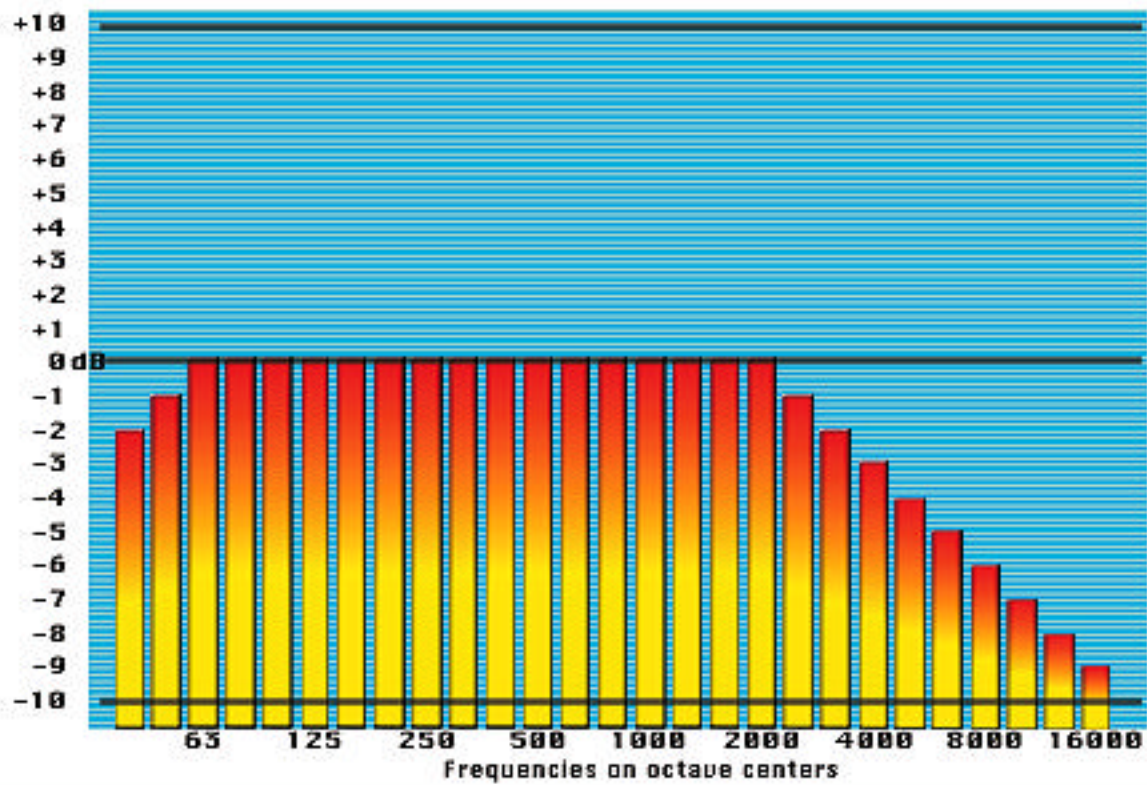
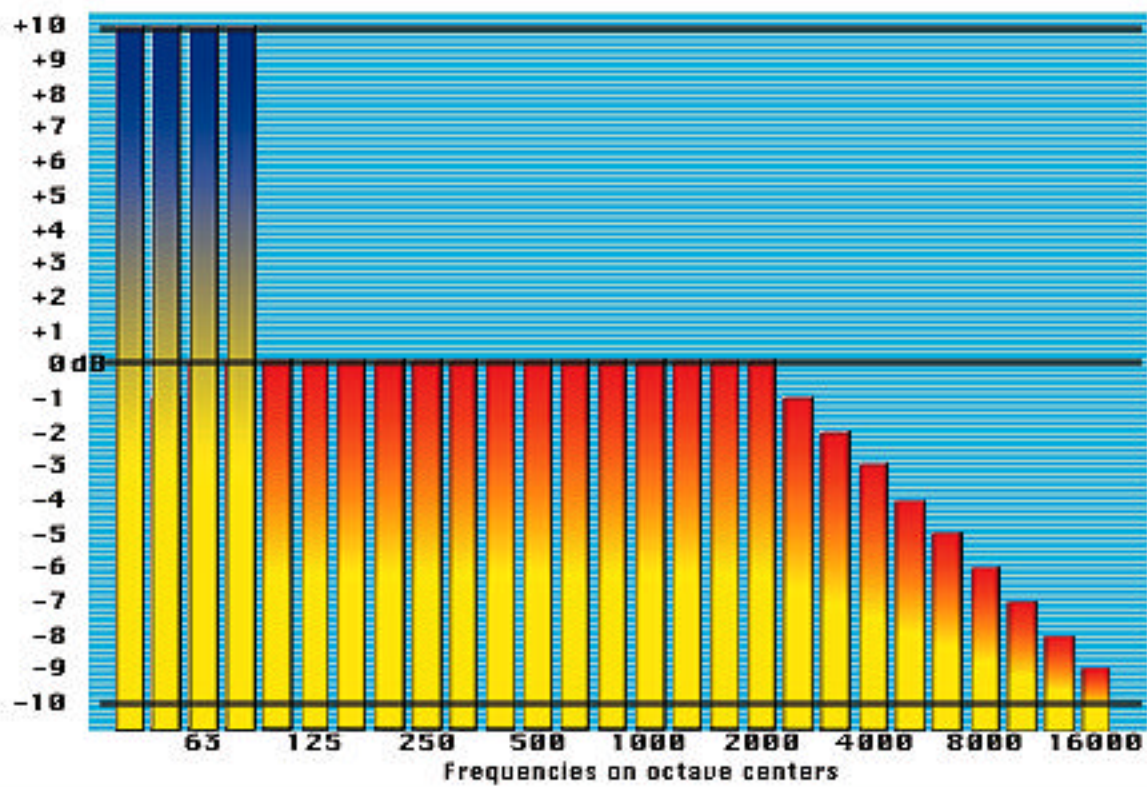

Figure 1
Figure 2
Dolby's answer was to use a Real-Time-Analyzer (RTA) rather than a sound pressure level meter to measure the subwoofer level. The idea was that the subwoofer frequencies should be set to appear 10 dB above those of the center channel, as seen on the analyzer. See Figure 2. Personally, I was skeptical about this approach. However, while I was unsure of this method, I did begin an extensive study to see if indeed the subwoofer's frequencies measured 10 dB above those of the center channel, when the subwoofer levels were correct and sounded the same in different theatres. Sure enough, they did. Yet the pink noise based subwoofer readings in these different theatres varied from 85 to 92 dB when measured with an SPL meter.
1. After the screen channels are equalized and levels are set, play pink noise through the center channel. Observe the RTA display and note the level of the frequencies between 100 and 2000 Hertz. See Figure 1. This level becomes an imaginary reference line for setting both the optical and digital subwoofer levels. Turn off the center channel pink noise.
2. Turn on the pink noise in the subwoofer channel. Place the processor in the digital format. Adjust the digital subwoofer so that the subwoofer frequencies are 10 dB above the (imaginary) reference line. See Figure 2.
Note: For purposes of illustration only, I have included the “X” curve display shown in figure 1, in figures 2 and 3. Since the center channel is off when setting the subwoofer levels, the analyzer will obviously only show the frequencies of the subwoofer. The subwoofer frequencies are indicated by the blue-yellow bars.